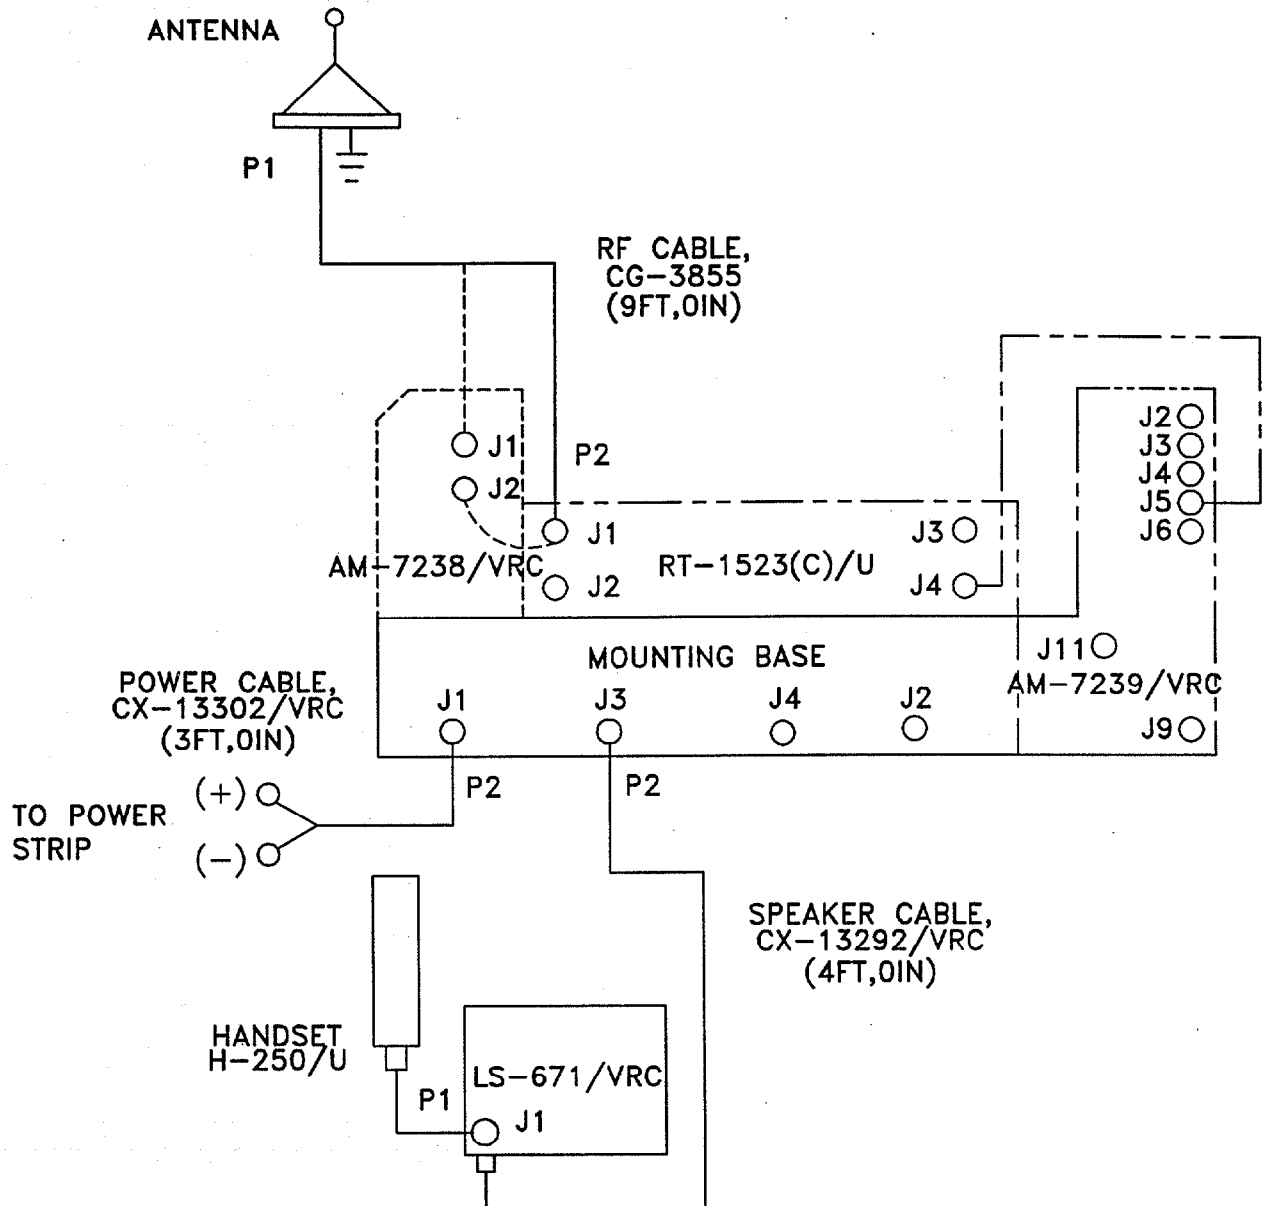

Figure 5-7. Cable Diagram: For AN/VRC-87/88/90 Series
b. Cables.	Check for proper installation and connection of cables. See figure 5-7 for cable connections. Unused cables should be stowed in appropriate place inside the vehicle.
e. Radio issued with vehicle.	Install and connect cables. See TM 11-5820-890-20-1 or TM 11-5820-890-20-4 for installation and operational (OP) checks and instructions.